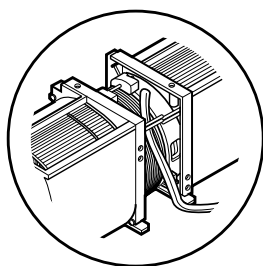

Figure 16
4. Reassemble the blower wire. See Figure 16.